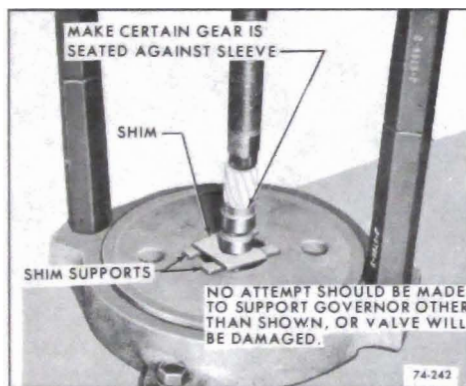

Figure 74-242
c. Make certain new gear is positioned squarely on sleeve and press gear into sleeve. Gear must be seated against sleeve. See Figure 74-242.